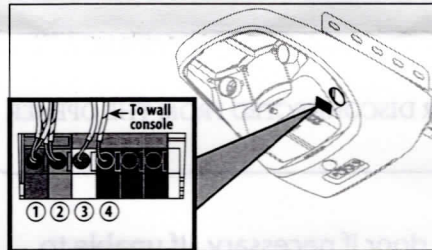

FIG. 2
5. Remove wall control and Safe-T-Beam® wires from terminal block. FIG. 2. Use small common screwdriver to press in on orange tabs while gently pulling wires from block. Mark wires to help facilitate replacement.